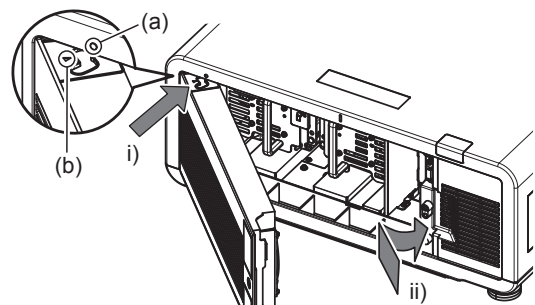

Fig. 2
**4) Attach the lamp unit cover. (Fig. 2)**